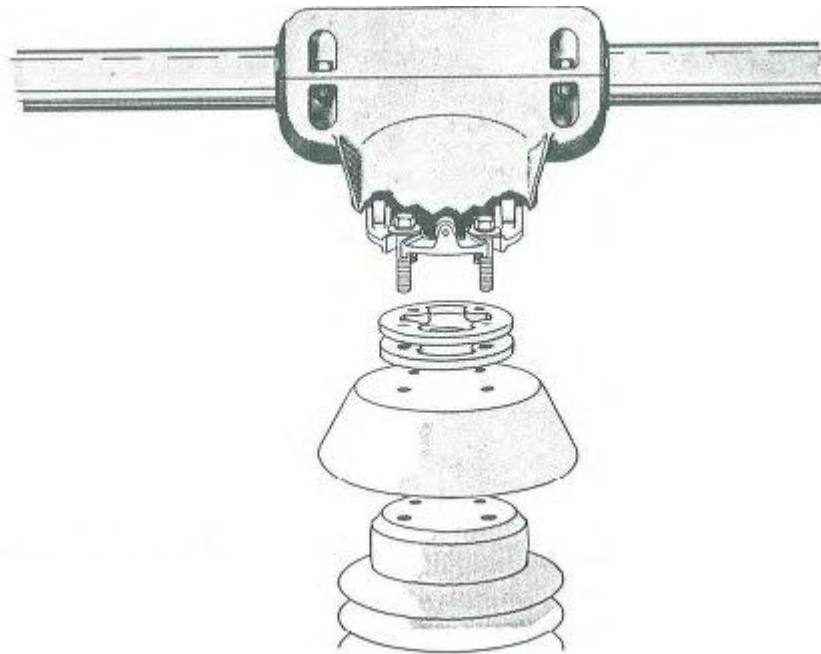

Figure 9: Installing "Watermelon"
- 1.10. Mount the blade assembly, ("watermelon,") as shown in **Figure 9**.